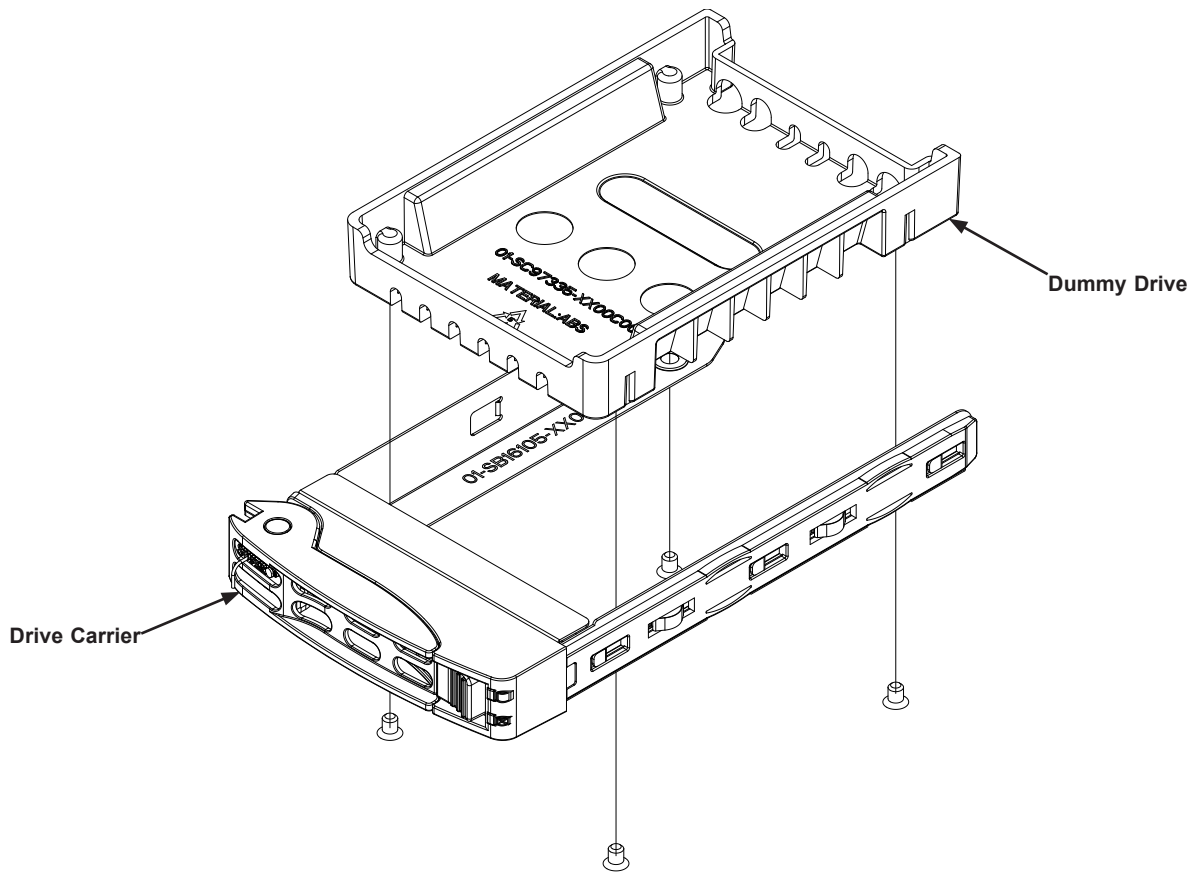

Figure 3-10. Removing a Dummy Drive from a Carrier
3. Remove the dummy drive from the carrier (Figure 3-10).